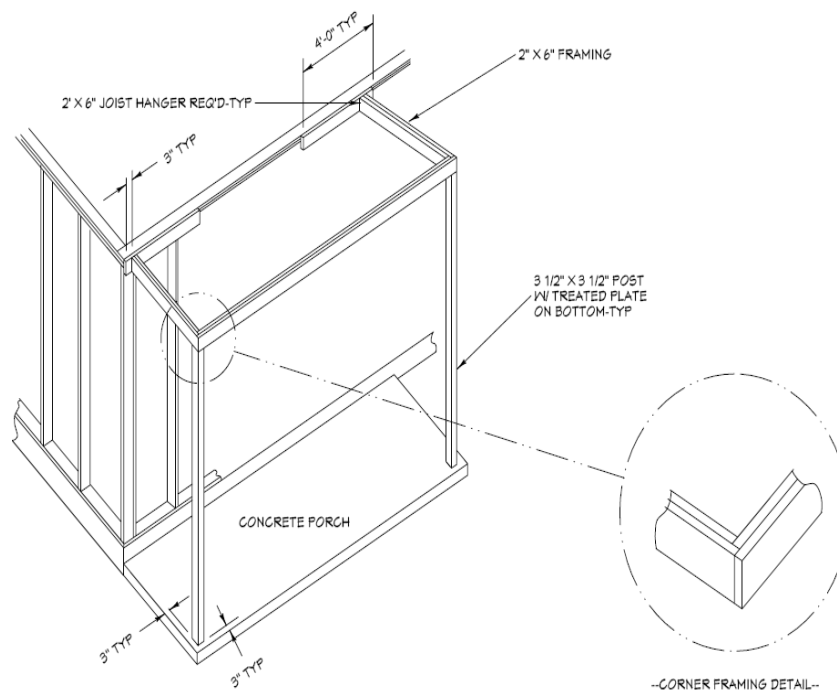

Figure 6-1. Porch Framing.
3. Referring to Figure 6-1, at each end of the porch nail a horizontal 4' long 2x6 flush with the top plate using 16d (or 3¼" Paslode) nails, holding one end to the line made in Step 1. Once nailed, install three or four 4" TimberLok screws spaced ~12" apart through the 2x6 into the house framing.